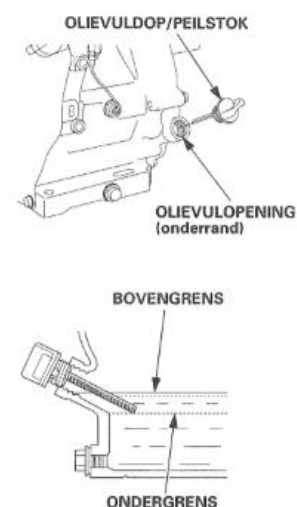

Figure: 9
- Honda engine: Unscrew the black dipstick/oil fill cap from the engine and wipe it off. Insert the dipstick into the hole until the thread of the dipstick touches the thread of the block (do not screw it in!). (See *figure 9*). Now remove it again and look to see whether the oil level falls within the cross-hatched area. If the oil level is too low, top it off through the dipstick opening (see *figure 9*).